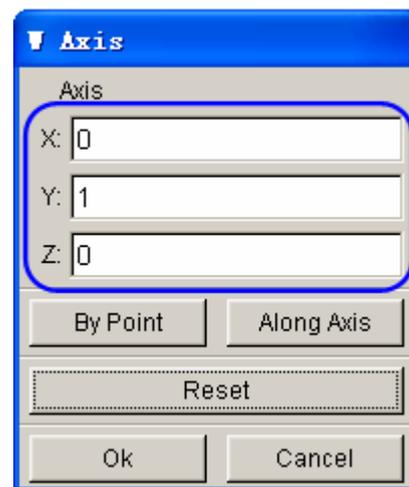

Figure 2.9 Direction dialog box
2. Click the **W Axis...** button to pop up DIRECTION dialog box, as shown in Figure 2.9.
3. Now, let's set Y-axis of global coordinate system as the W-axis of LCS by changing the input data field of X, Y and Z. As illustrated in Figure 2.9, **X=0.0, Y=1.0** and **Z=0.0**.